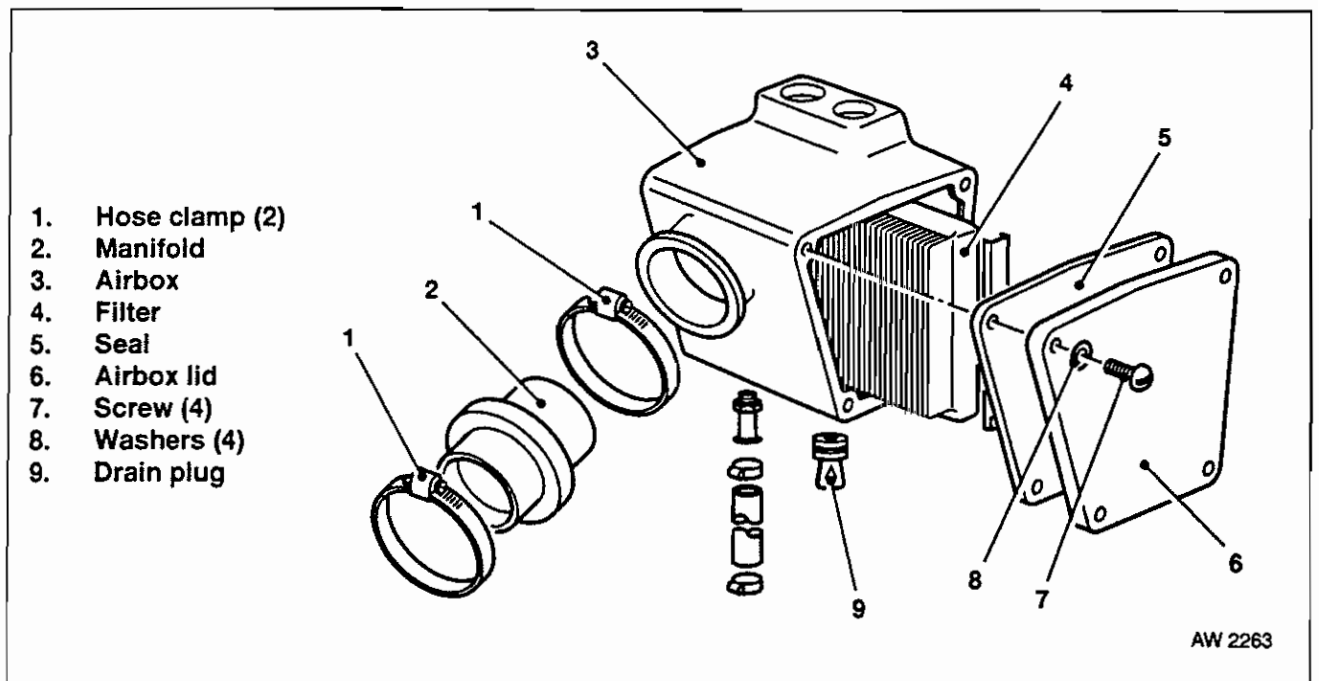

Fig 4.2 Airbox
- (1) Remove L/H side panel.
- (2) Unscrew the airbox lid retaining screws (5) and washers (8) remove lid (6) and seal (5). Fig 4.2 refers.